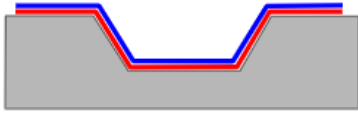

Fig.8
- When the film is applied following the steps explained above, it is important to let the material and the surface to cool down prior to any cutting or overlapping. *Fig.8*